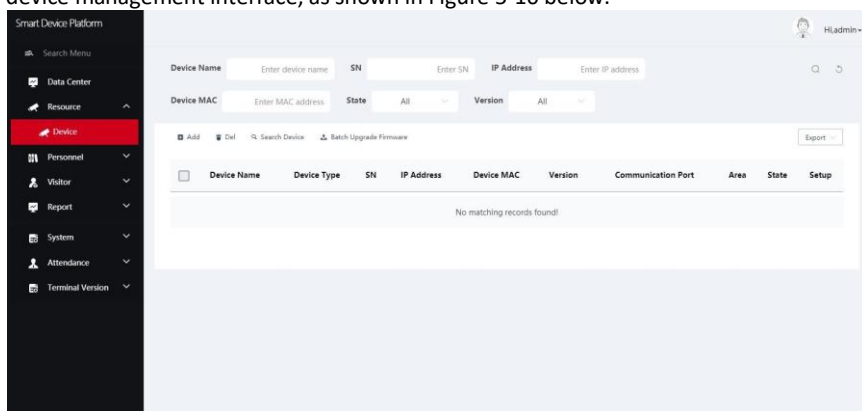

Figure 5-10
Step 1: In the smart device platform interface, click "Resource→Device" to enter the device management interface, as shown in Figure 5-10 below.